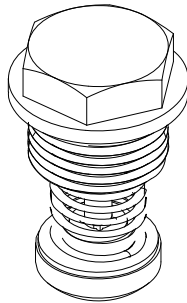

Fig. 3: Valve Assembly
Clean and inspect all valve plugs (47) prior to reassembling. If there is a problem, contact your dealer. Once all valve plugs (47) are clean and dry, install new valve plug o-ring (46) onto valve plug (47). Install the valve spring (45) onto the valve plug (47), it should now be attached to the plug. Press the valve (44) onto the valve spring (45). Complete valve assembly shown in Fig. 3.